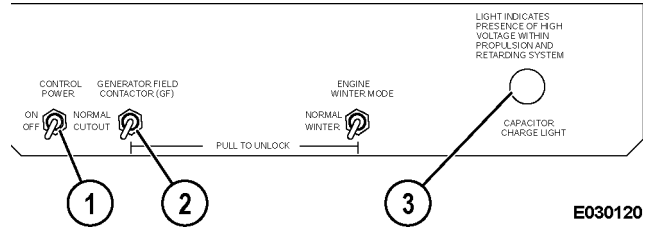

FIGURE 20-4. INFORMATION DISPLAY PANEL
- The generator field is cut out via GF cutout switch (2, Figure 20-4) in the low voltage area of the control cabinet.
1. Apply control power for a minimum of 30 seconds. Then, turn off control power using control power switch (1) on the switch panel.